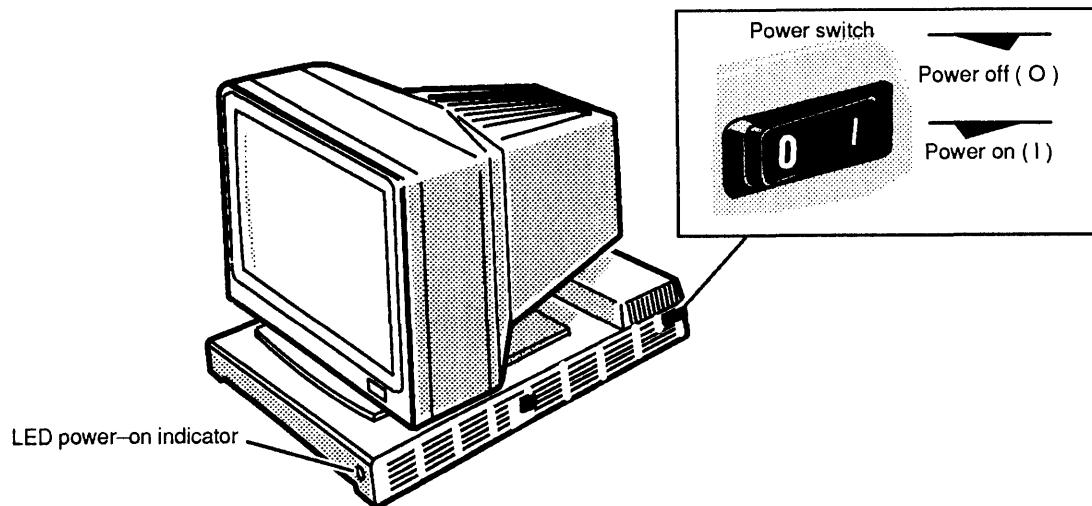

Figure 3-4 Computer Unit Power Switch and LED Power-On Indicator
4. Turn on power to the computer unit by pressing the computer unit's power switch as shown in Figure 3-4.